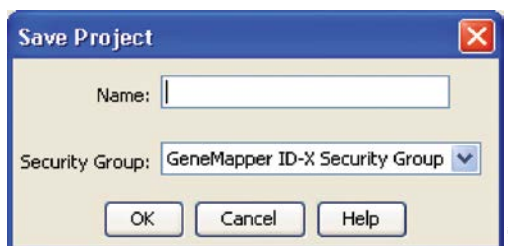

Figure 16. The Save Project window.
10. If all analysis requirements are met, the Save Project window will open (Figure 16).